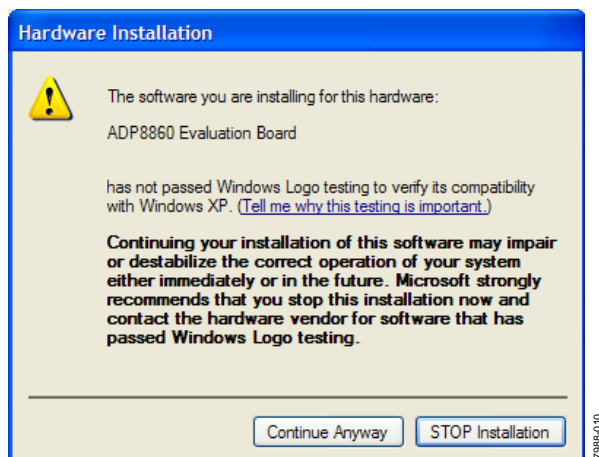

Figure 9. Hardware Installation
3. When the dialog box in Figure 9 appears, click **Continue Anyway**.